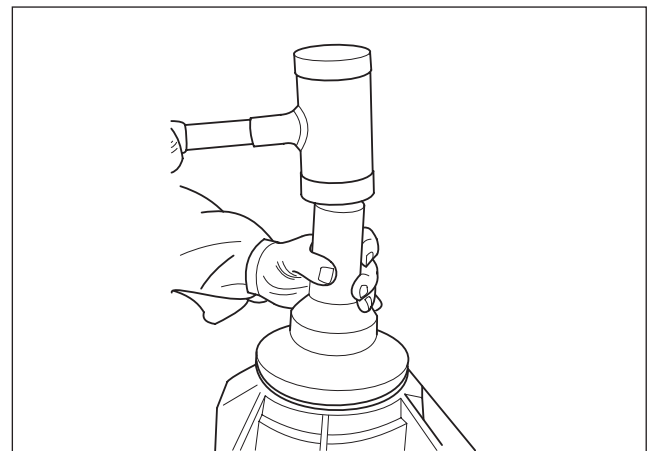

Fig. 2.66
7. Press seal into bore in carrier, when service tool contacts carrier the seal will be correctly positioned in the bore. (Fig. 2.66)